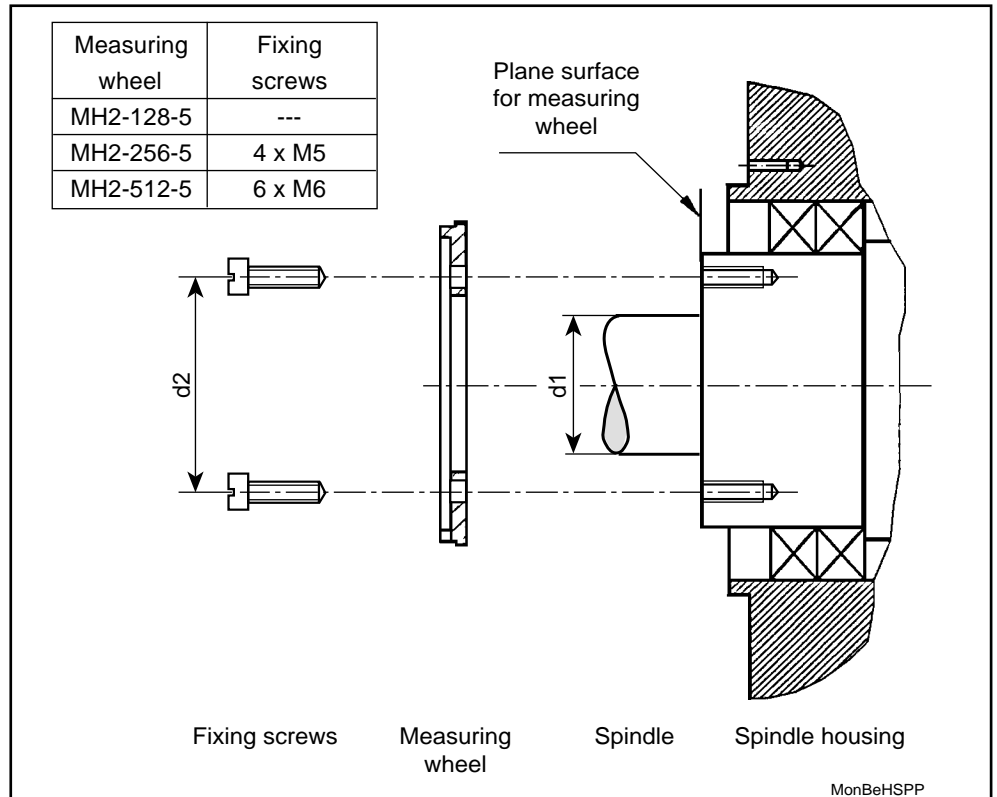

Figure 4.1: Installing the measuring wheels using fixing screws
- Does the fixing point for the measuring wheel correspond to the fixing dimensions (see measuring wheel Figures 2.1 through 2.5) with respect to diameter d1, concentricity and plane course (see Figure 4.1 or 4.2).